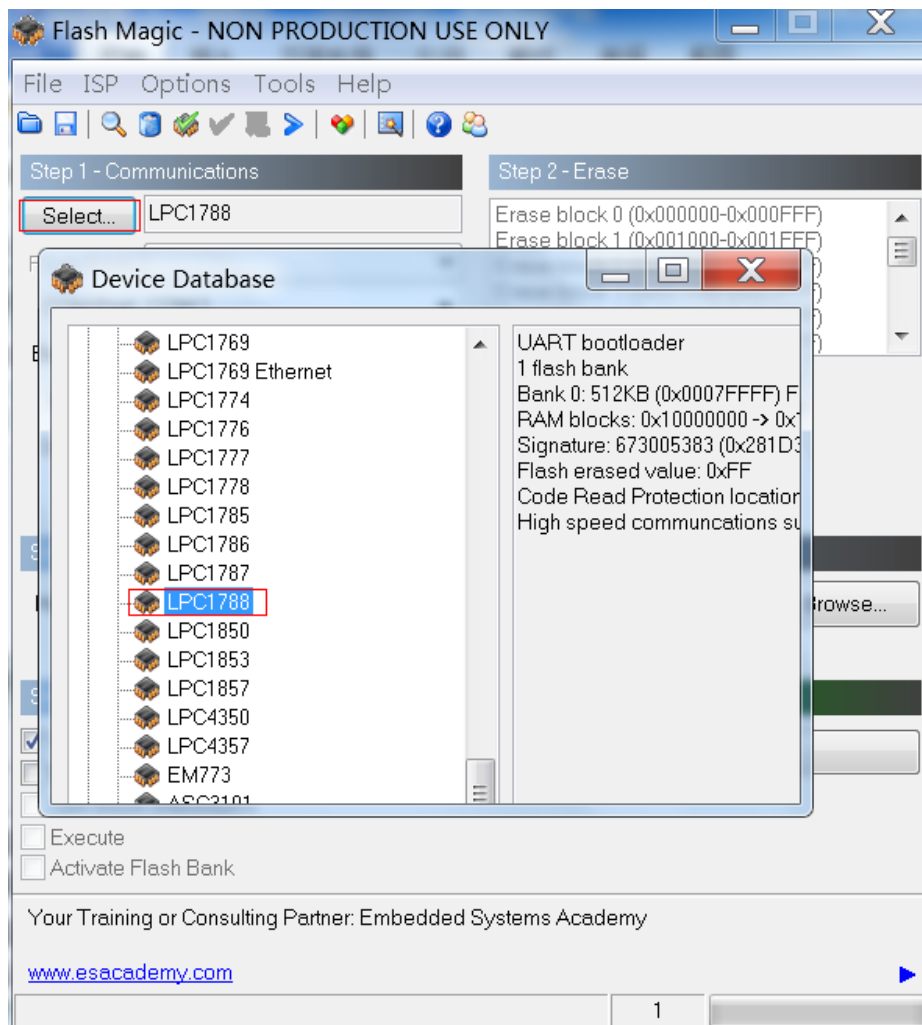

Figure 3-15
(3) Configure development environment and select LPC1788. COM Port can be saw in manger device. Baud rate choose 57600. Crystal oscillator selects 12M. Selectsend Hex File. Refer to figure 3-15 and 3-16.